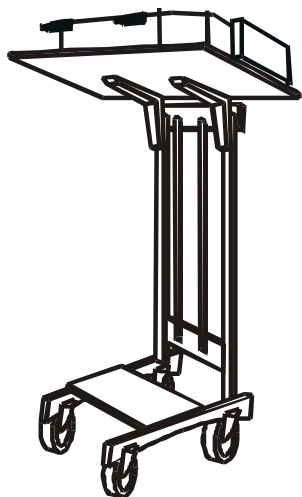

Figure B.5.1
- If installation of unit includes using a lift, insert a plywood sheet between the unit and the lift forks to avoid damaging unit. (Figure B.5.1)